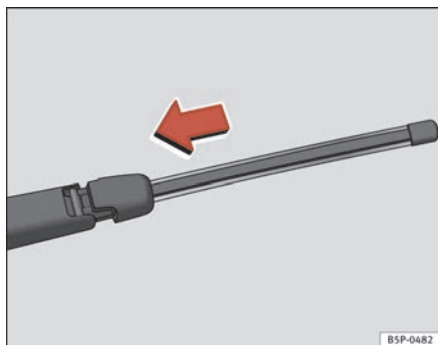

Fig. 164 Mount rear window wiper blade
- Place the blade as shown in the ⇒ page 227, fig. 164 and slide the adapter along until it fits into place.